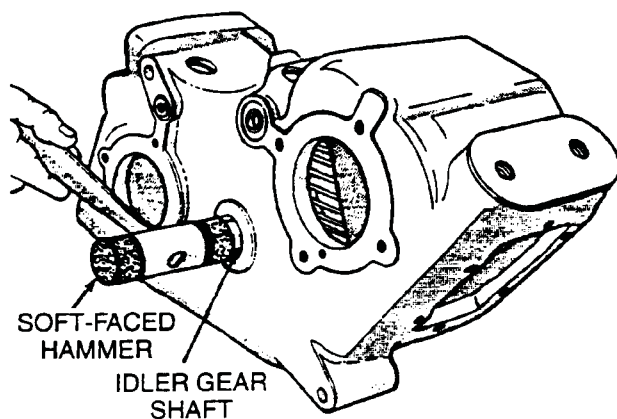

Fig. 2-8 Remove Idler Gear Shaft
18. Using plastic hammer, remove idler gear shaft (Fig. 2-8).